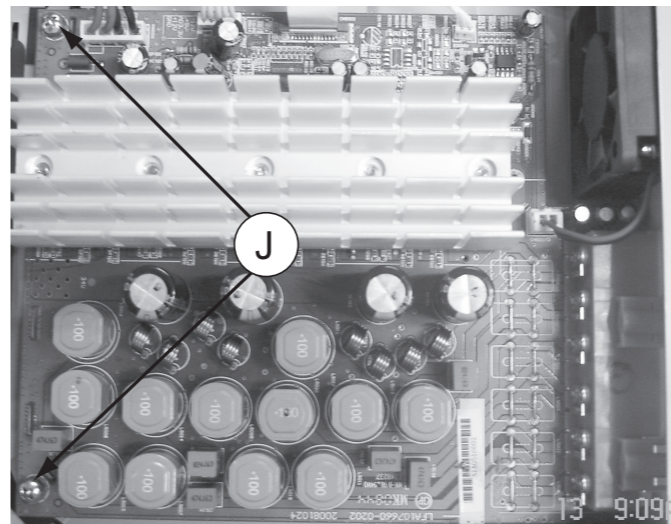

Figure 13
- 1) Loosen 2 screws “J” on the top of AMP Board as shown in figure 13.